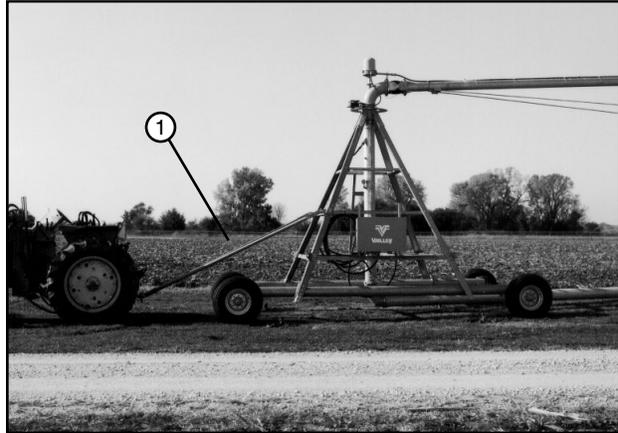

Figure 50-1 1. Tongue
18. After the pivot and drive units have been prepared for towing, hook tongue to the towing unit. See figure 50-1.